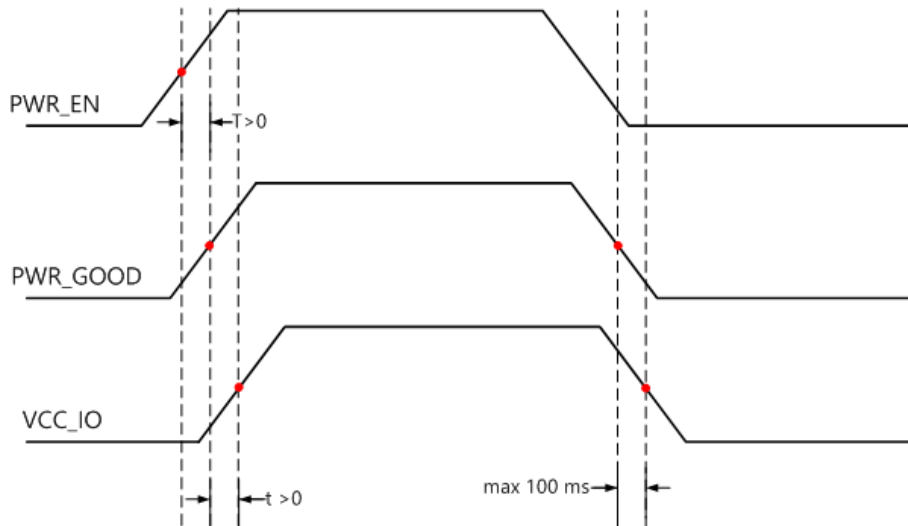

Figure 12: Power-Up Sequence - VCC\_IO in Relation with PWR\_GOOD and PWR\_EN Signals
*Do not power the VCC\_IO pins when PWR\_GOOD and PWR\_EN signals are not active. If the module is not powered, you need to make sure that the VCC\_IO voltages are disabled (for example, by using a switch on the base board, which uses PWR\_GOOD as enable signal). Figure 12 illustrates the VCC\_IO power requirements.*
*Do not power the VCC\_IO pins (for example by connecting VCC\_3V3 to VCC\_IO directly) when PWR\_EN is driven low to disable the module. In this case, VCC\_IO needs to be switched off in the manner indicated in Figure 12.*